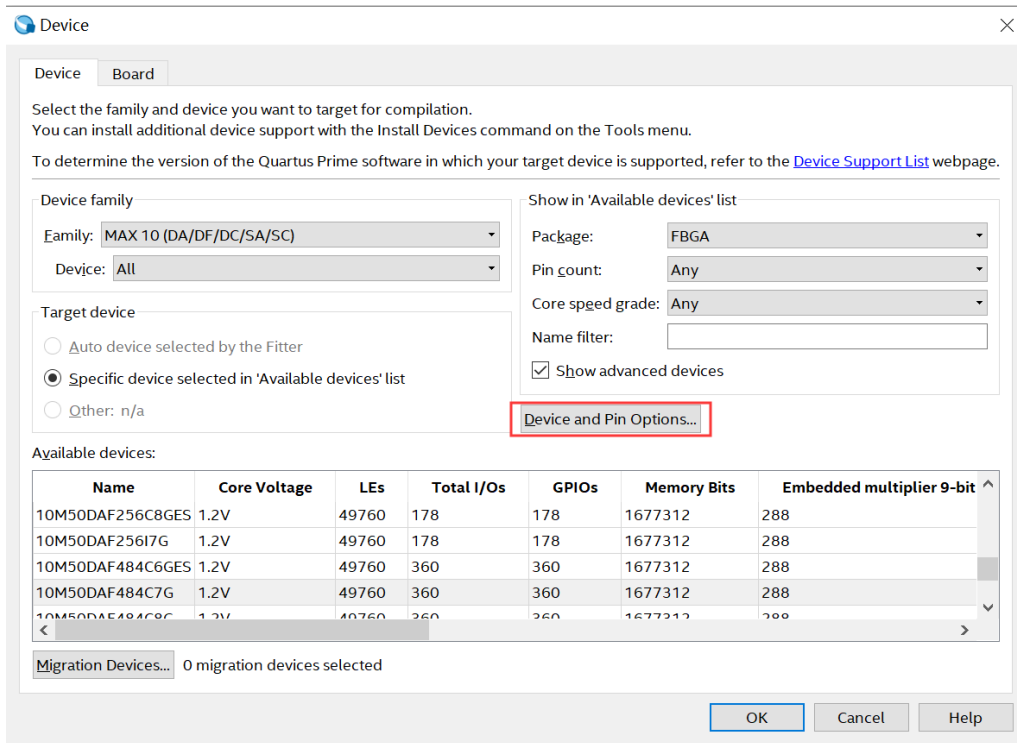

Figure 4-11 Open Device window...
1. Choose **Assignments > Device** to open Device windows shown in **Figure 4-11**.